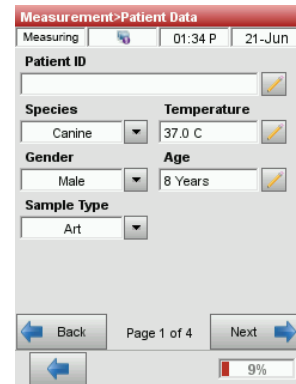

Figure 21. Required patient data
- Enter the required patient data (figure 21).